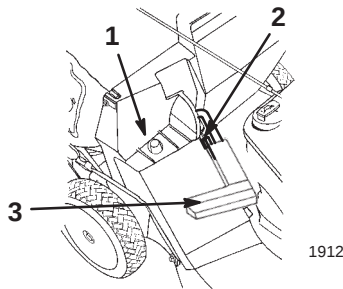
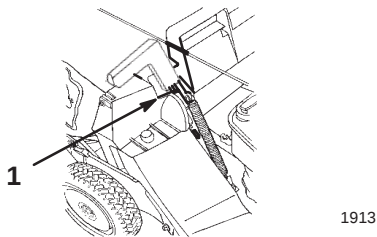

Figure 11
Figure 12
2. Ensure that the discharge door handle is fully forward and that the pin is engaged in the catch (Fig. 11).
3. Slide the hole in the bag frame onto the retaining post on the discharge tunnel (Fig. 11).
5. Open the discharge door by pulling the discharge door handle forward until the pin clears the ramp on the bag door and moving the handle rearward until the pin locks in the bag notch (Fig. 12).
2. Pull the discharge door handle up and out of the bag notch (Fig. 12) and pull it forward until it engages the catch (Fig. 11).